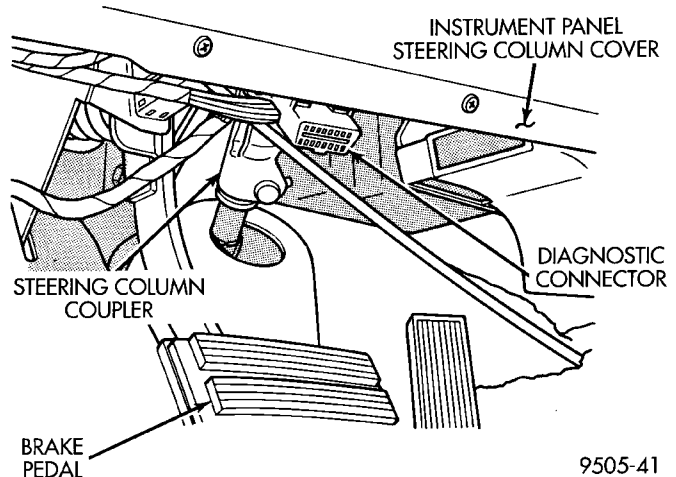

Fig. 11 ABS System Diagnostic Connector Location
(1) Assemble and install all brake system components on vehicle making sure all hydraulic fluid lines are installed and properly torqued.
(2) Connect the DRB Diagnostics Tester to the diagnostics connector. Located under the steering column cover, directly below the steering column (Fig. 11).
(3) Using the DRB, check to make sure the CAB does not have any fault codes stored. If it does, remove them using the DRB.